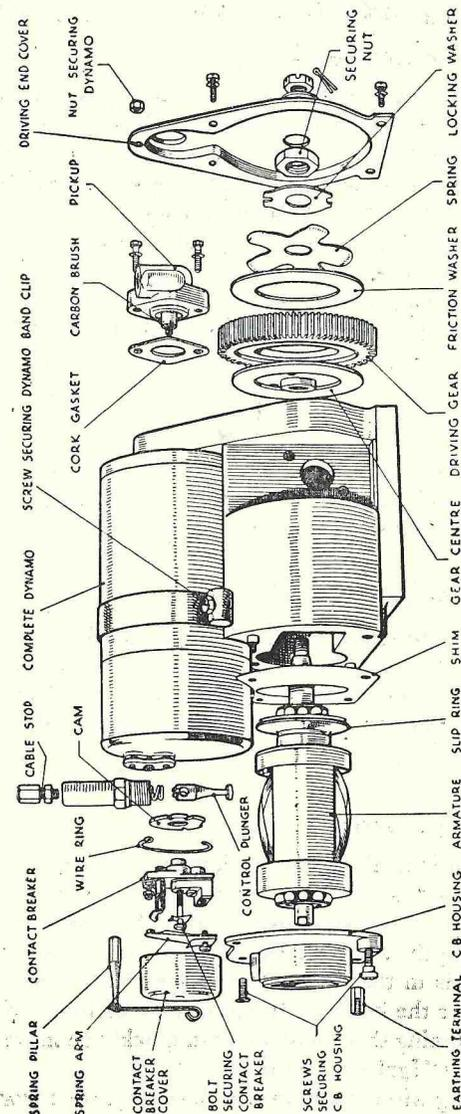

FIG. 82.—EXPLODED VIEW OF MAGDYNO (TYPE MOI).
Remove the dynamo and take off the driving-end cover (see Fig. 82). To dismantle the slipping-clutch-type drive, a small tool is necessary to hold the large gear whilst the securing nut is unscrewed.
*Removing Magneto Armature.*—Refer to Fig. 82. Remove contact-breaker assembly and cam. Unscrew cable stop of timing control and remove control plunger. Next remove pick-up complete and small earthing screw and brush from side of magneto body. Unscrew small end-cover screws, earthing terminal and pillar from end plate and take off the plate together with shims. Armature can now be withdrawn.